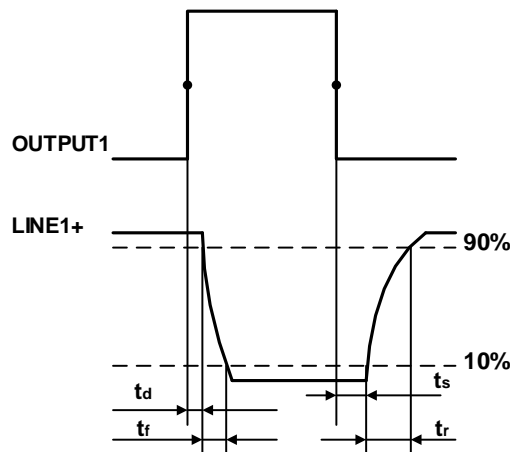

Figure 7-6 Parameter of opto-isolated output circuit
- Rising time delay =  $t_r + t_d$ :  $< 50\mu s$  ( $0^\circ C \sim 45^\circ C$ ) (parameter description is shown in Figure 7-6)
- Falling time delay =  $t_s + t_f$ :  $< 50\mu s$  ( $0^\circ C \sim 45^\circ C$ ) (parameter description is shown in Figure 7-6)
- Rising time delay = tr+td: <20μs (0°C~45°C) (parameter description as shown in Figure 7-6)
- Falling time delay = ts+tf: <20μs (0°C~45°C) (parameter description as shown in Figure 7-6)